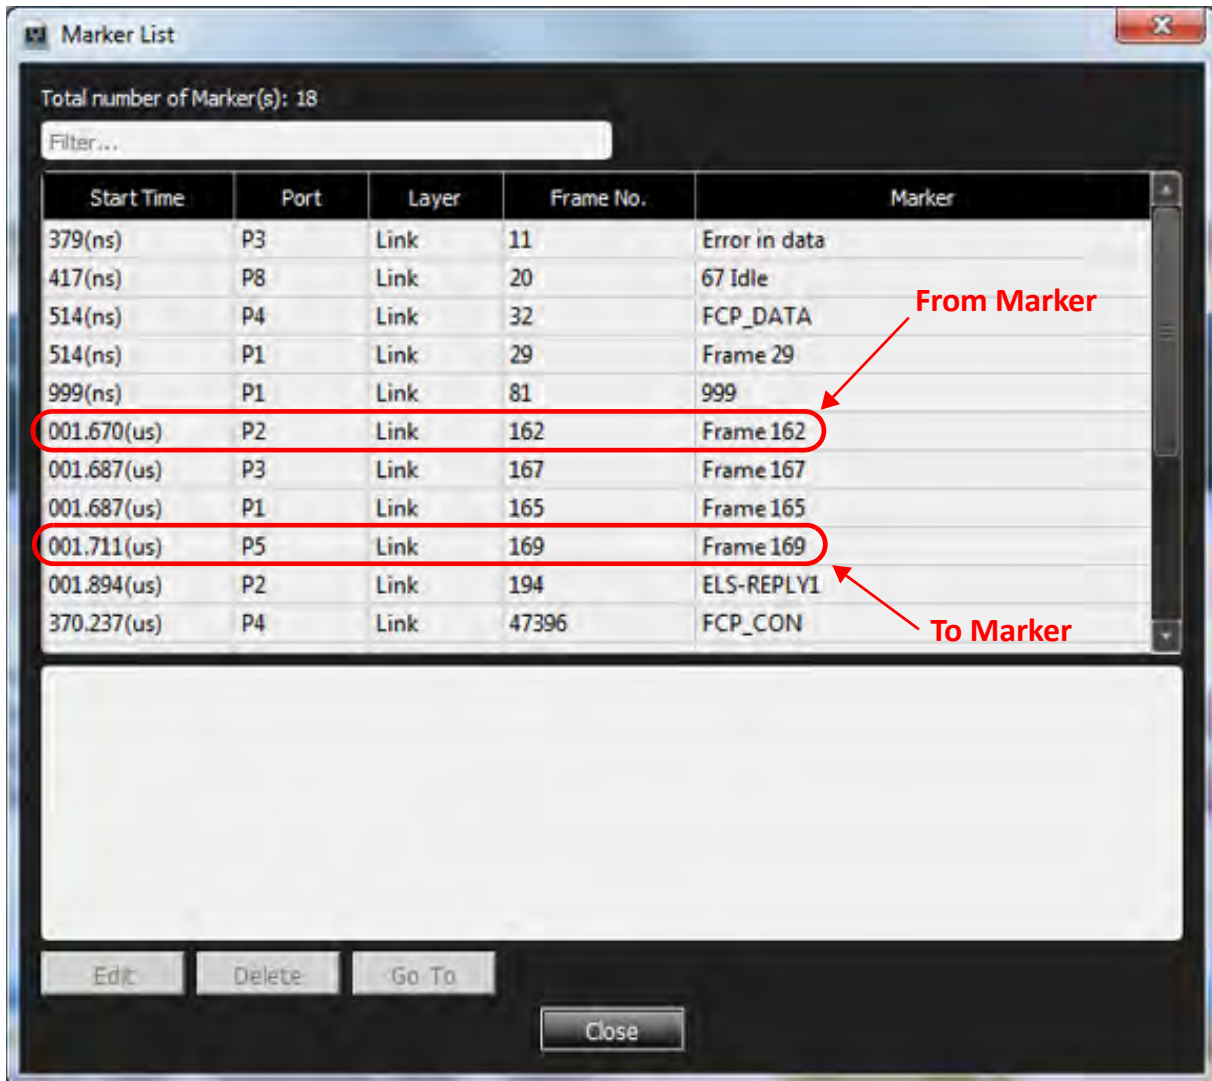

Figure 5.44: Marker Dialog
3. Choose any Marker for **From** and any Marker for **To** (Figure 5.44).